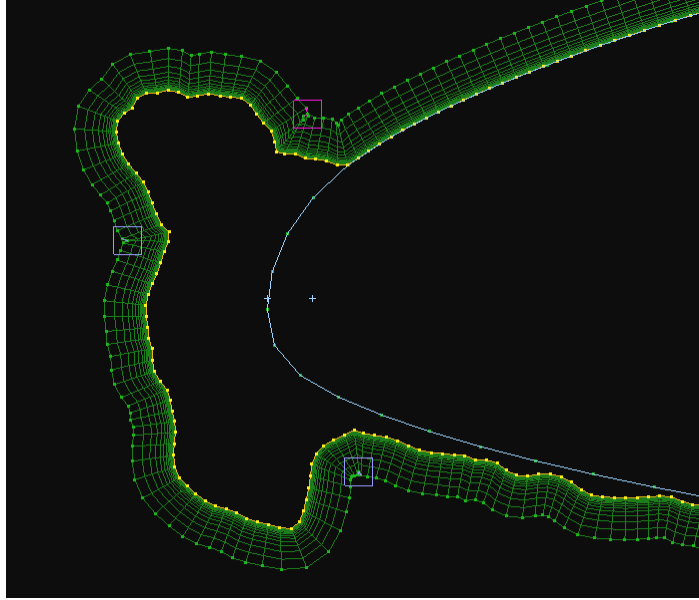

Figure 17. Twists and creases on the JMAX boundary of the viscous sublayer are highlighted.
- Click the **Apply** button to make the changes permanent, but do not close the window. The graphics window should contain an image similar to Figure 17.